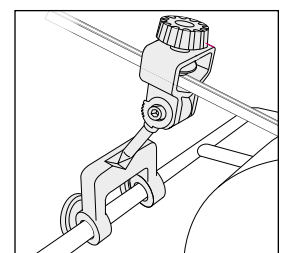

Fig 4
4. With the tool secured in the tool holder (B), place the shaft (E) in the recess of the support arm mount. The support arm must then be moved to a position which allows the tool to be applied to the sharpening wheel at the correct angle, meaning that as much of the edge of the tool should come into contact with the stone as possible. See **Fig 4**.